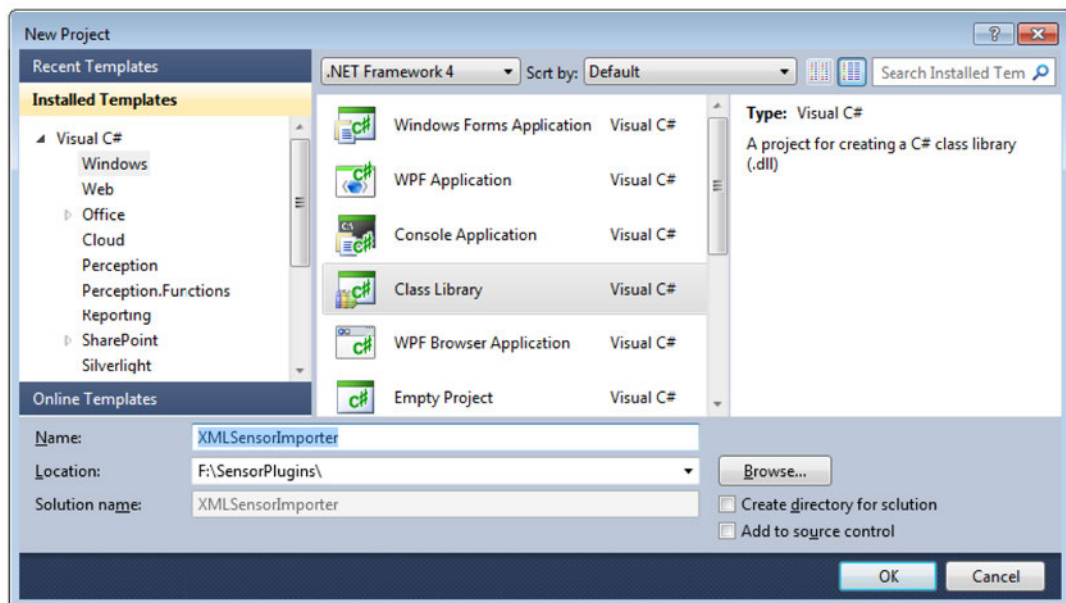

Figure 3.107: Example of how to create a plugin
- 2 Create a new Class Library and name it **XMLSensorImporter** (see Figure 3.107).